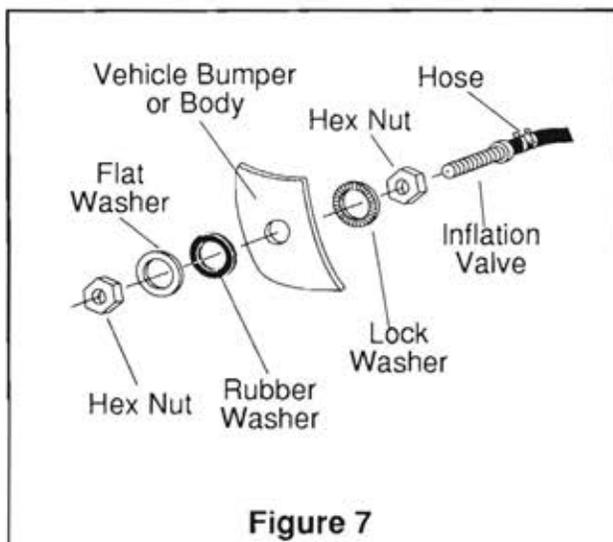

Figure 7
- H. Drill 5/16" hole for inflating valves and mount as illustrated (Rubber washer for outside weather seal - Figure 7).